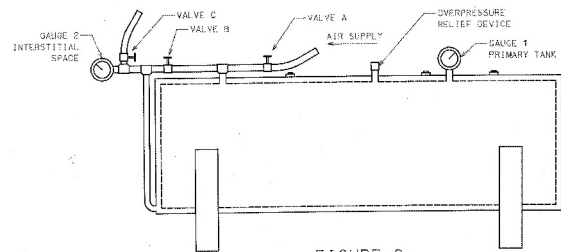

FIGURE 2
3.2.2.2 Install test piping as shown in Figure 2. Close valves A and B. Open valve C. Temporarily plug, cap or seal off remaining tank openings to hold pressure.
3.2.2.3 Connect the regulated test air supply line to test piping as shown in Figure 2.